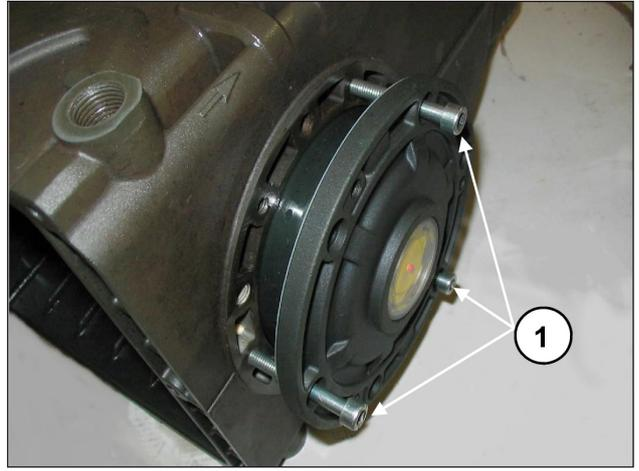

Fig. 8
To facilitate filling of the first section and relative fitting of the covers on the casing, it is recommended to use 3 partially-threaded M6 x 40 screws, (Fig. 8, pos. ①) to then complete the operation with the screws supplied (M6x16).
To transition the two side covers closer to the casing, it is possible to use 3 M6x40 screws for the first positioning phase, as already indicated above Fig. 8, and the screws provided for final fastening.